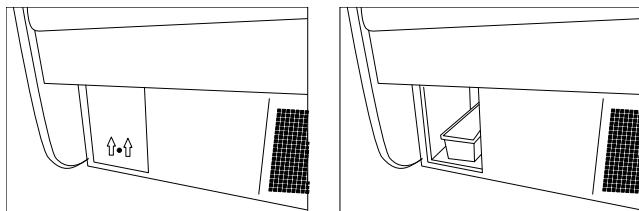

Fig.9 Condensate container
3. (Concerns the devices with internal aggregate) Place the condensate container on the basis of the aggregate, under water outflow hose (does not concern devices with automatic condensate evaporation) Fig.9 (p.18)
If the device is not equipped with automatic condensate evaporation, it is necessary to remove the condensate from the container when it is full Fig.9 (p.18). Frequency of removing condensate (number of removals) depends on device operating conditions (among others on air humidity, amount and temperature of placed products).